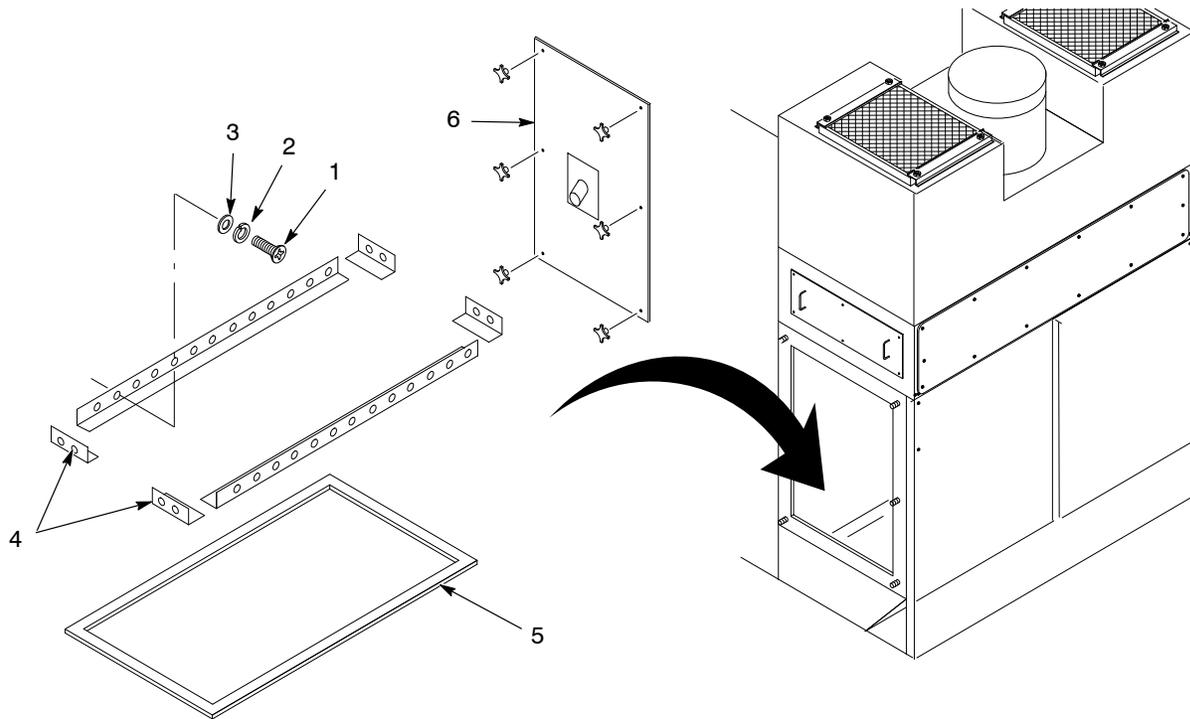

Figure 17 Collector Fluidizing Plate Replacement
3. See Figure 17. Remove the cartridge filter access panel (6) and vacuum out any remaining powder.
4. Remove the screws, lock washers, and flat washers (1, 2, 3) securing the six retaining angles (4).
5. Remove the retaining angles and fluidizing plate (5).